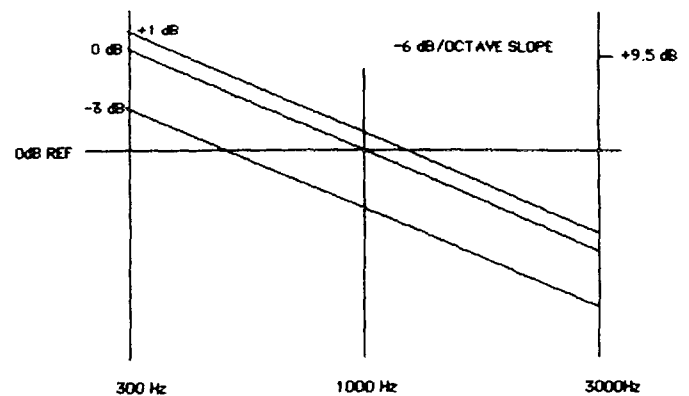

FIGURE 5.3— RECEIVER AUDIO FREQUENCY RESPONSE
10. Plot the resulting values using 0 dB as the reference and compare them with the 6 dB per octave curve in your receiver's service manual or with the EIA specification as shown on figure 5.3.